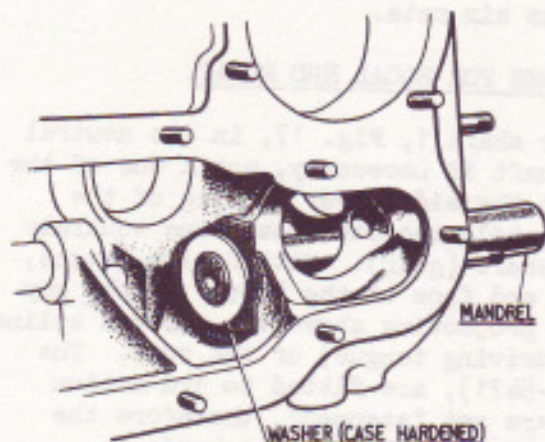

FIG. 12. POSITIONING OF REAR WASHER OF 2ND MOTION SHAFT DURING ASSEMBLY.
- a) In order to correctly position the rear case hardened washer 3 Fig. 6 while entering the bearing shaft (4) into the gearbox, it is a good idea to make a mandril .874" dia. (22.2 m/m) by about 5" (127 m/m) long and enter it in the rear of the box and place the washer on the end of it as shown in Fig. 12.